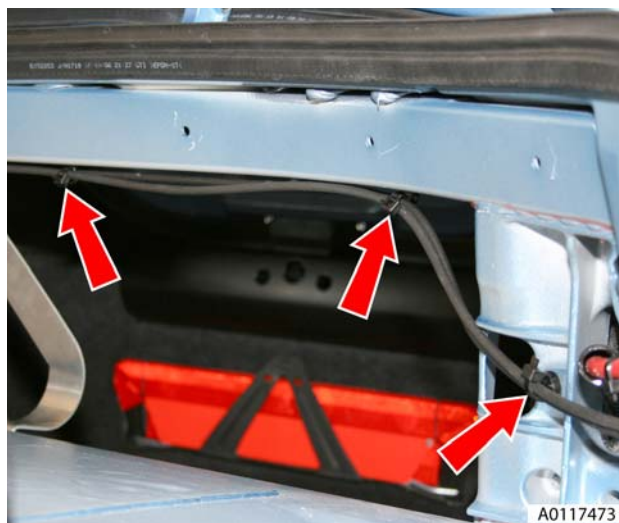

Figure 6
12. Remove harness/pipe retaining clips (x3) LH side (see Figure 6).